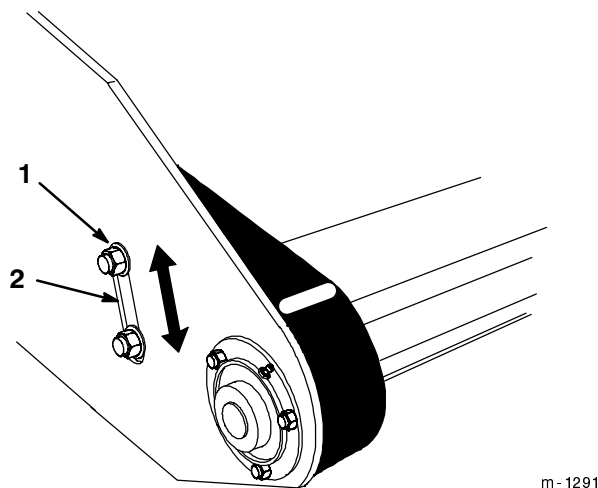

Figure 28
6. To adjust, loosen the bolt that secures the idler sprocket to the left-side housing. (Fig. 28).
7. Slide the idler sprocket in the adjustment slot until the chain is snug, but not tight (Fig. 28).